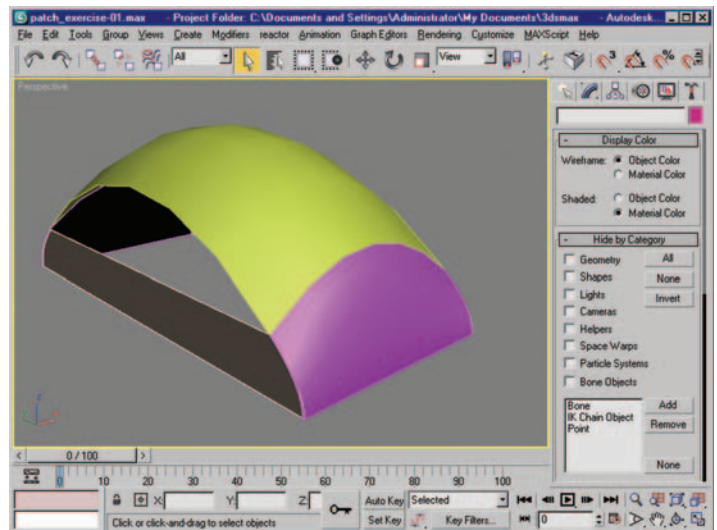

Figure 2.29 Side patch; we are not concerned with the opening between the side and the top surfaces.
9. Go to Create panel, Quad Patch, and create a rectangle spanning from the front to the back of the mouse in the side viewport. Using the same process we used for the front, we are going to make the new patch follow the existing curves of our front and back patches. We are *not*, however, going to match the side profile of the mouse top surface. You will see why we are not concerned with matching the mouse top profile shortly. As with the previous patch, we are going to clone and mirror the patch to the opposite side of the mouse top surface. Figure 2.29 shows the new side patch as it should look when you are finished (it should appear the same on the opposite side as well).